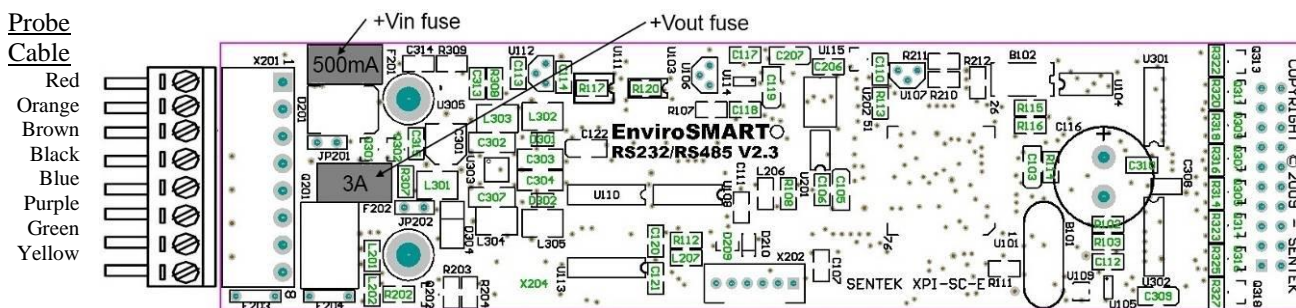
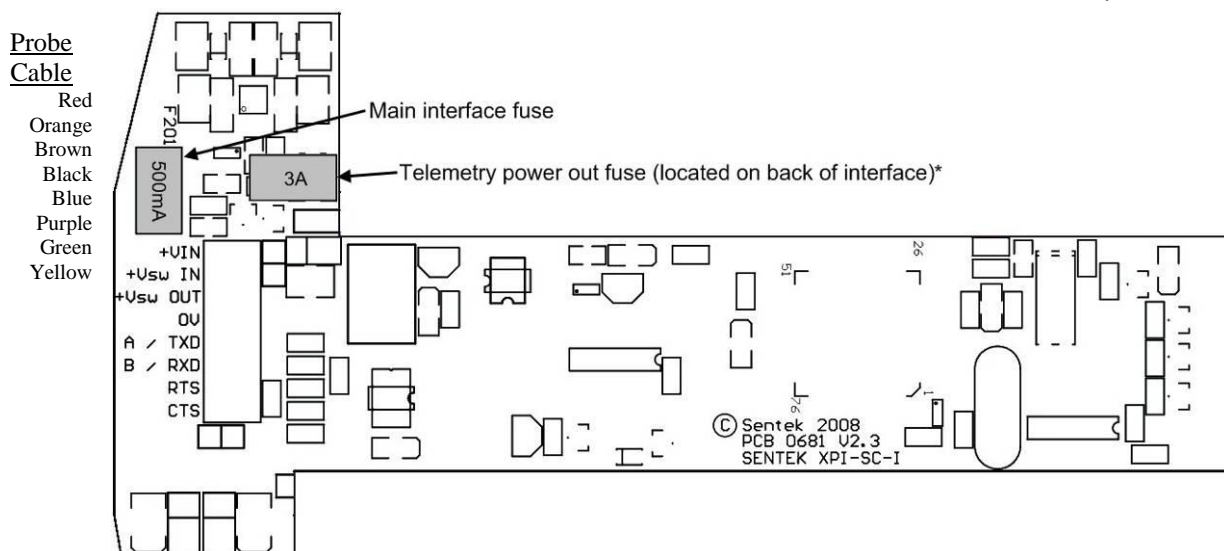

Figure 41 Sentek EnviroSCAN PLUS interface wiring
Figure 42 Sentek EasyAG PLUS interface wiring
- b) Strip the wires on the probe cable and connect them to the interface screw terminal (See Figure 41 and Figure 42).